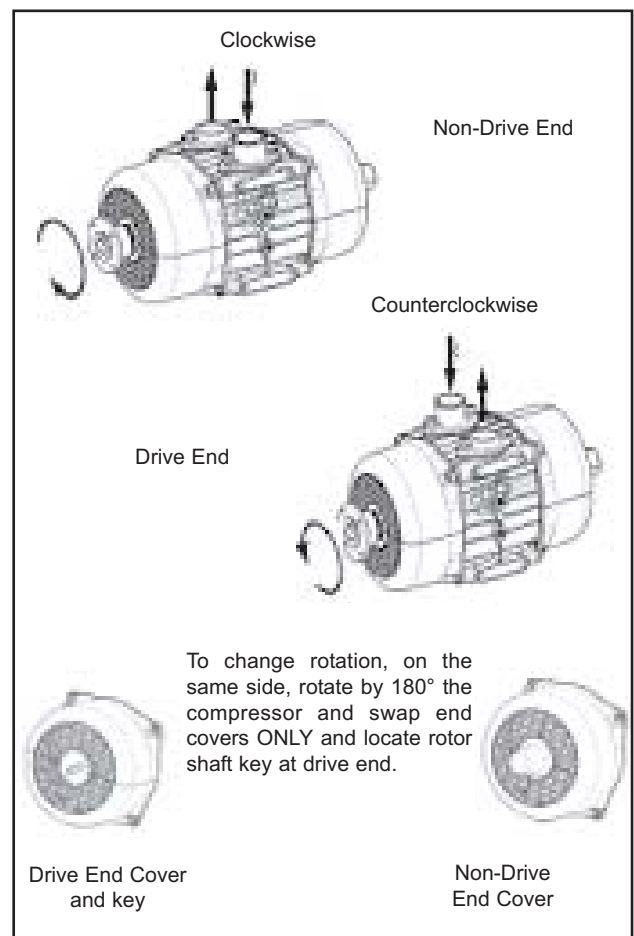

Figure 2
- The compressor can be driven from either end, however the drive shaft **MUST** always be horizontal $\pm 5^\circ$. See Figure 2.